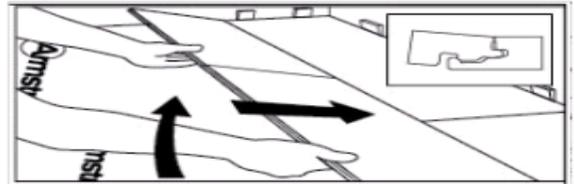

Fig. 13
12. Angle up and push forward until the boards lock together (Fig. 13).